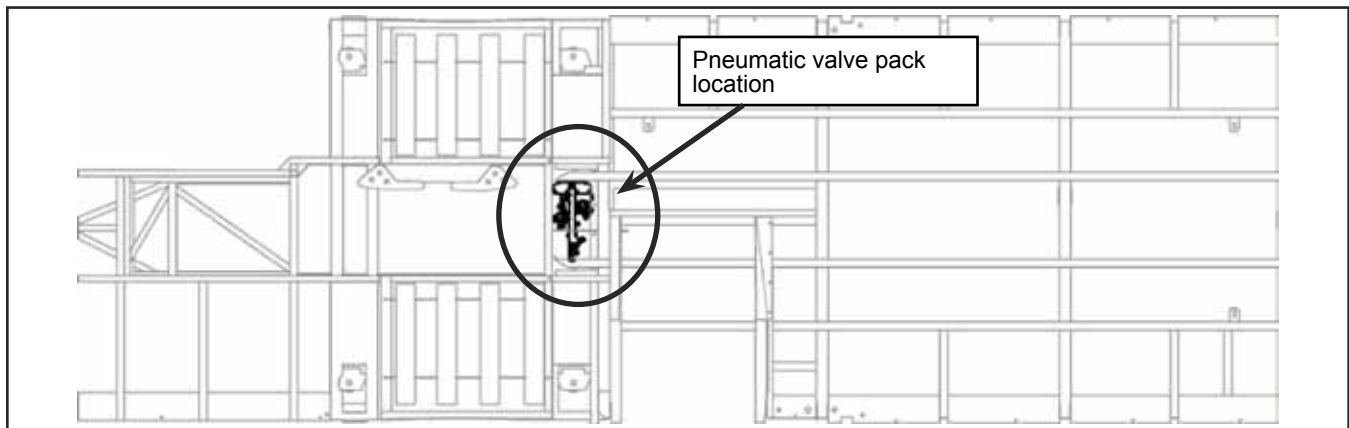

Figure 2 - Brake System Pneumatic Valve Pack Location
- 1.5. Disconnect and remove the brake system's pneumatic valve pack located under the center aisle in front of the rear axle. Retain the pneumatic valve pack and the hardware. See Figure 2.